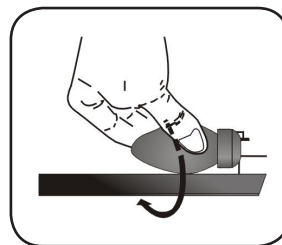

Fig. 3, No. 3
1. To replace the lamp, loosen the screws on the rear of the appliance (see Fig. 3, No. 1) and remove the opening as shown in Figure 3, No. 2.